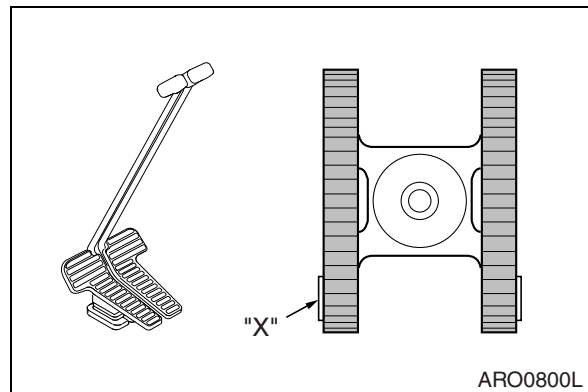

Figure 41
- Stopping travel (Figure 41) - Returning travel levers to "NEUTRAL" position will automatically apply brakes and stop excavator.